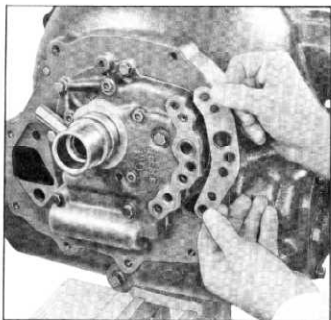

Fig. 134—Installing Valve Body to Case Gasket
3. Install new valve body to case gasket (fig. 134).